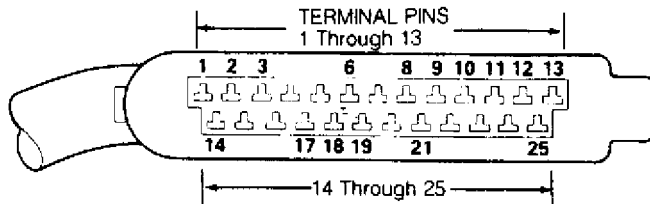

Fig. 3: Identifying ECU Connector Terminals
1) Turn ignition off. Remove Electronic Control Unit (ECU) connector. Attach ohmmeter to ECU connector. See Fig. 3. Resistance should correspond to ECU PIN CHECK in AFC-DIGIFANT II AIRFLOW SENSOR RESISTANCE table.
Turn ignition off. Use a thermometer to measure coolant temperature. Unplug connector from Electronic Control Unit (ECU). Attach an ohmmeter between terminals No. 6 and No. 10 of ECU connector. See Fig. 3. Resistance should decrease as coolant temperature increases. See COOLANT TEMPERATURE SENSOR RESISTANCE table. Replace sensor if resistance is not within specification.
3) If CO reading does not rise, check for continuity between O2 sensor wire and terminal No. 2 of ECU. See Fig. 3. If continuity exists, replace ECU. For more information, see PIN VOLTAGES & SENSOR OPERATING RANGES article.